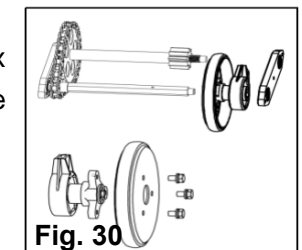

Fig. 30
5. Remove the three screws which secure the friction wheel's side plates together, change the rubber ring only. See Figure 30.